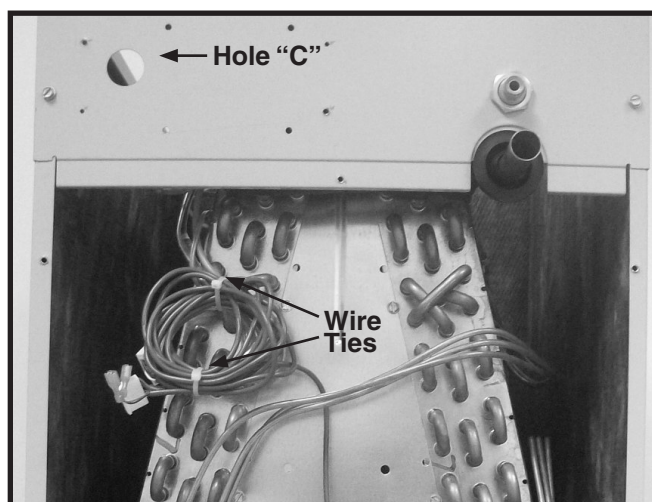

Figure 2. Cables with wire ties
3. Route the following cables out through hole "C" (Figure 2):
- EXV coil cable (6-wire) with 6-pin connector plug (1).
- Pressure Transducer cable (3-wire) with 4-pin connector plug (2).
- Suction Line Thermistor cable (2 red wires) with 2-pin connector (3).
- Indoor Coil Temperature Sensor cable (4).